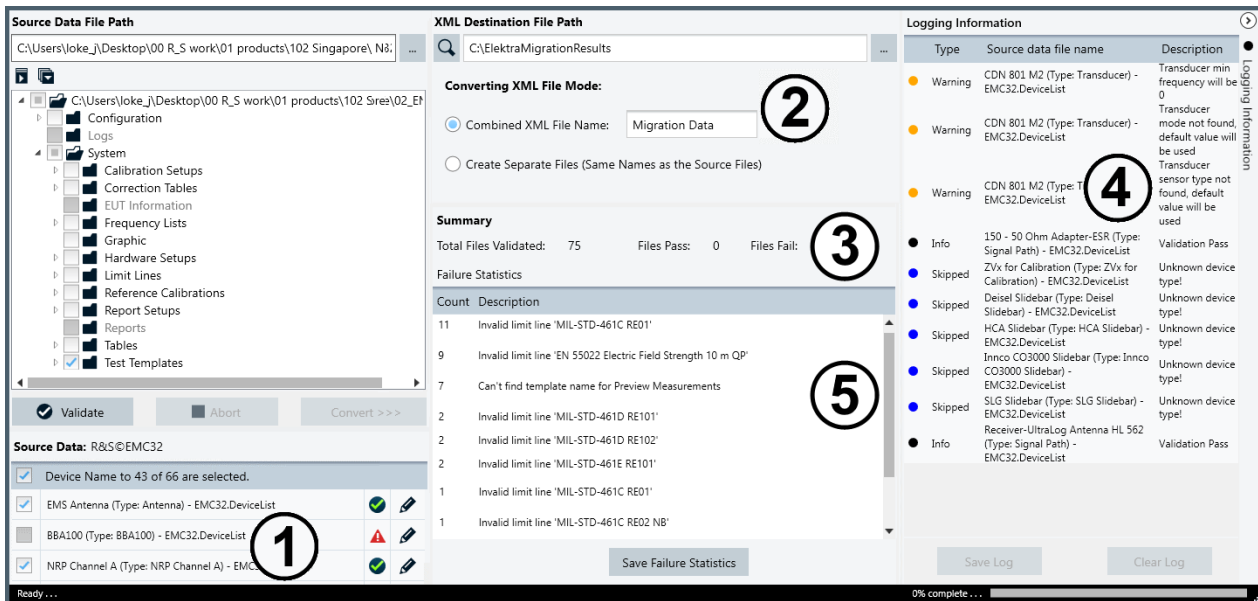

Figure 2-7: Source data selected for conversion to XML data (EMC32)
In the list of "Source Data" files (1), you can select the available files individually. In this dialog section, if you check the checkbox on top of the list, the tool selects all files that have passed validation (see sections (3) and (4) in Figure 2-7).